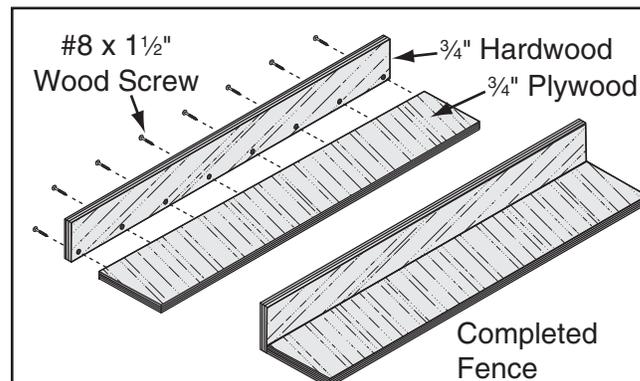

Figure 92. Location of pilot holes.
2. Pre-drill and countersink eight pilot holes $\frac{3}{8}$ " in from the edge of the $5\frac{1}{4}$ " wide board, then secure the boards together with eight #8 x $1\frac{1}{2}$ " wood screws, as shown in **Figure 92**.